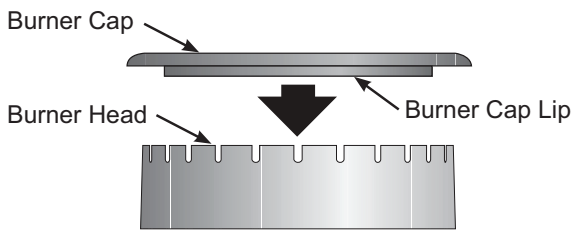

Figure 21: Burner Cap
1. Remove the burner cap from the burner head (see Figure 21). Clean the cap with hot soapy water and dry thoroughly